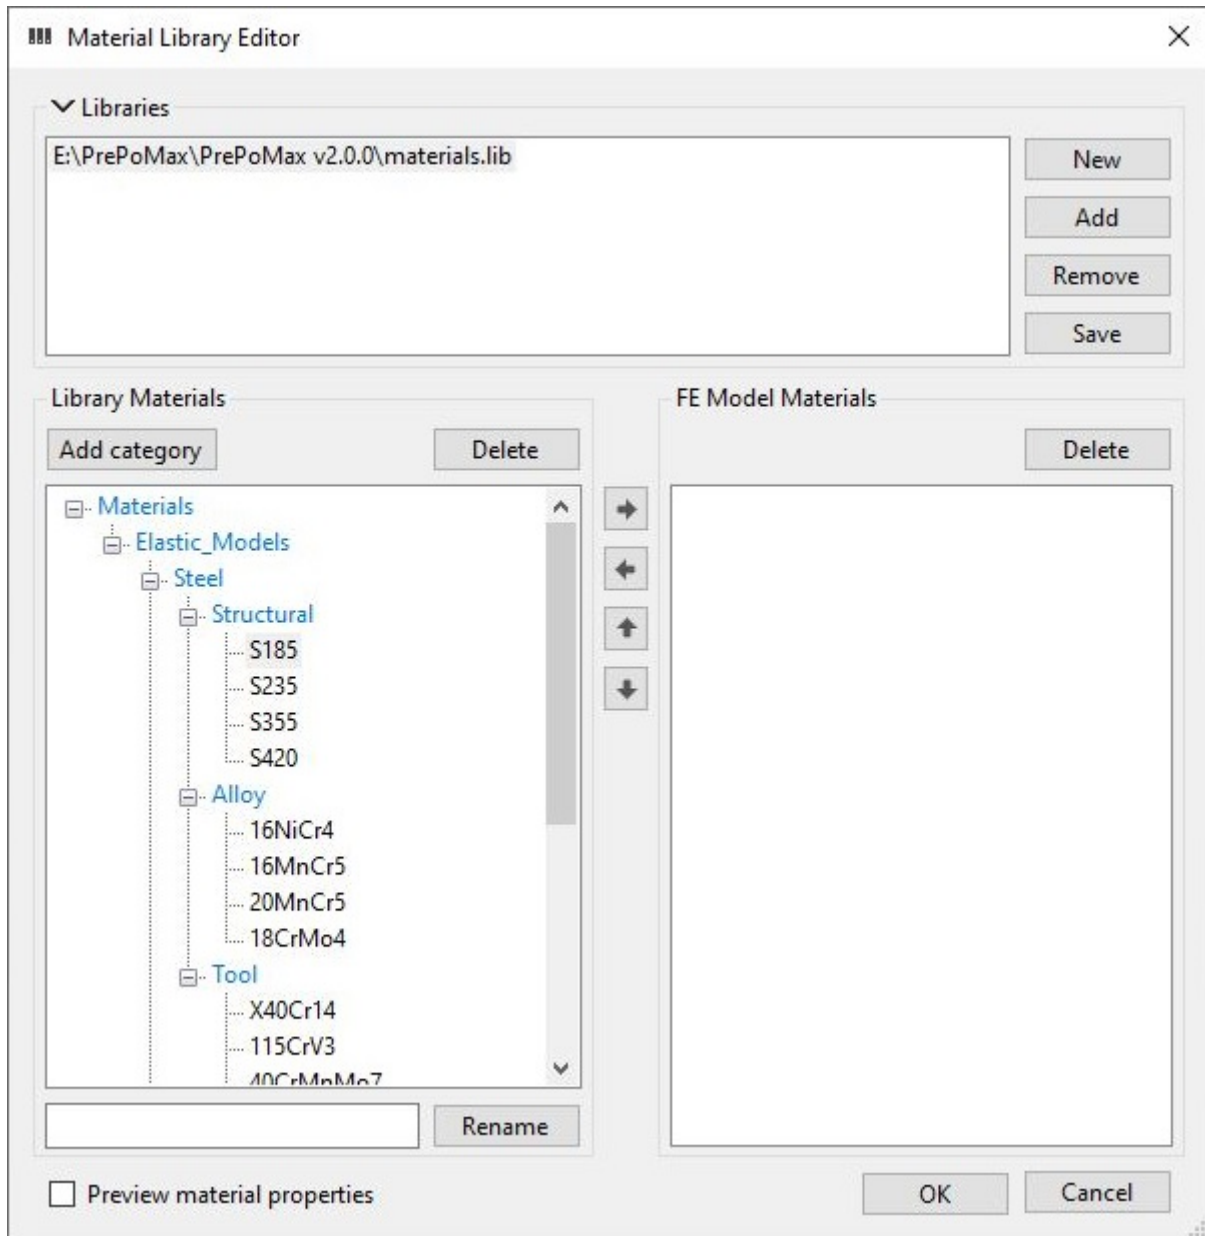

Figure 14: Material library
Material Library editor (Figure 14) allows access to materials library that is stored in the materials.lib file in the base PrePoMax directory. The library file is a text-based file that can be edited using any .txt editor, like Notepad++. It is assumed that all material data is stored using the mm, ton, s, °C unit system. But the library file is not meant to be edited this way since it is created directly from the material objects using JSON serialization and thus not easily readable. The library is meant to be edited using the PrePoMax built-in material editor.
To add a user material to the material library the material must be created first using the Material editor. Then the material library editor (Figure 14) can be used to add the user material to the library. In the material library editor, a desired category must be selected or created first and then the left arrow button can be used to copy the user material to the library. Once a material is added to the library the changes must be saved for future use.
If only a selected material is to be exchanged with the second user, a PrePoMax model `.pmx` file must be used. The first user creates a simple (but not empty) model containing the selected user material. This file must then be sent to the second user who opens the model file and adds the user material from the file to his materials library using the Material library editor (Figure 14). At the bottom of the Material Library Editor there is a checkbox to enable preview of properties of a selected material.
**Material libraries:** PrePoMax supports editing of multiple material libraries using the built-in material library editor (Figure 14). The added Libraries group-box contains the list of opened library files and the following buttons for their manipulation: